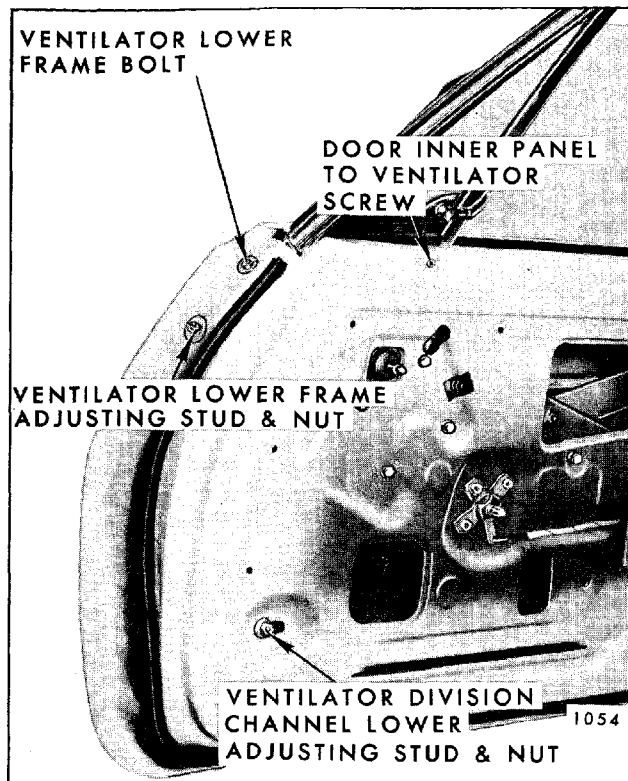

Fig. 7-91—Front Door Ventilator Attachments - "Z" Styles
6. Loosen ventilator attaching screws and adjusting stud nuts at points described below and illustrated in Figure 7-91.